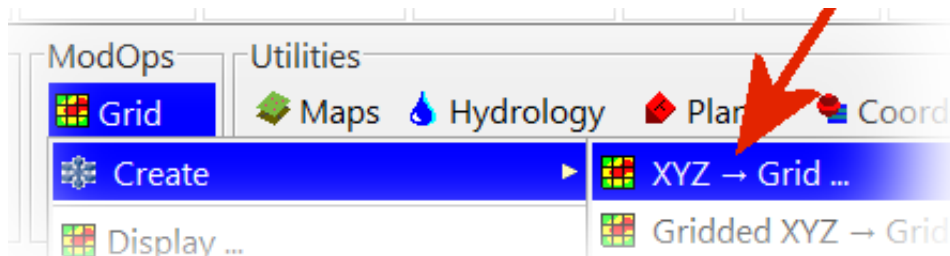

Figure 8
- Select the *ModOps / Create / XYZ -> Grid* option (Figure 8).